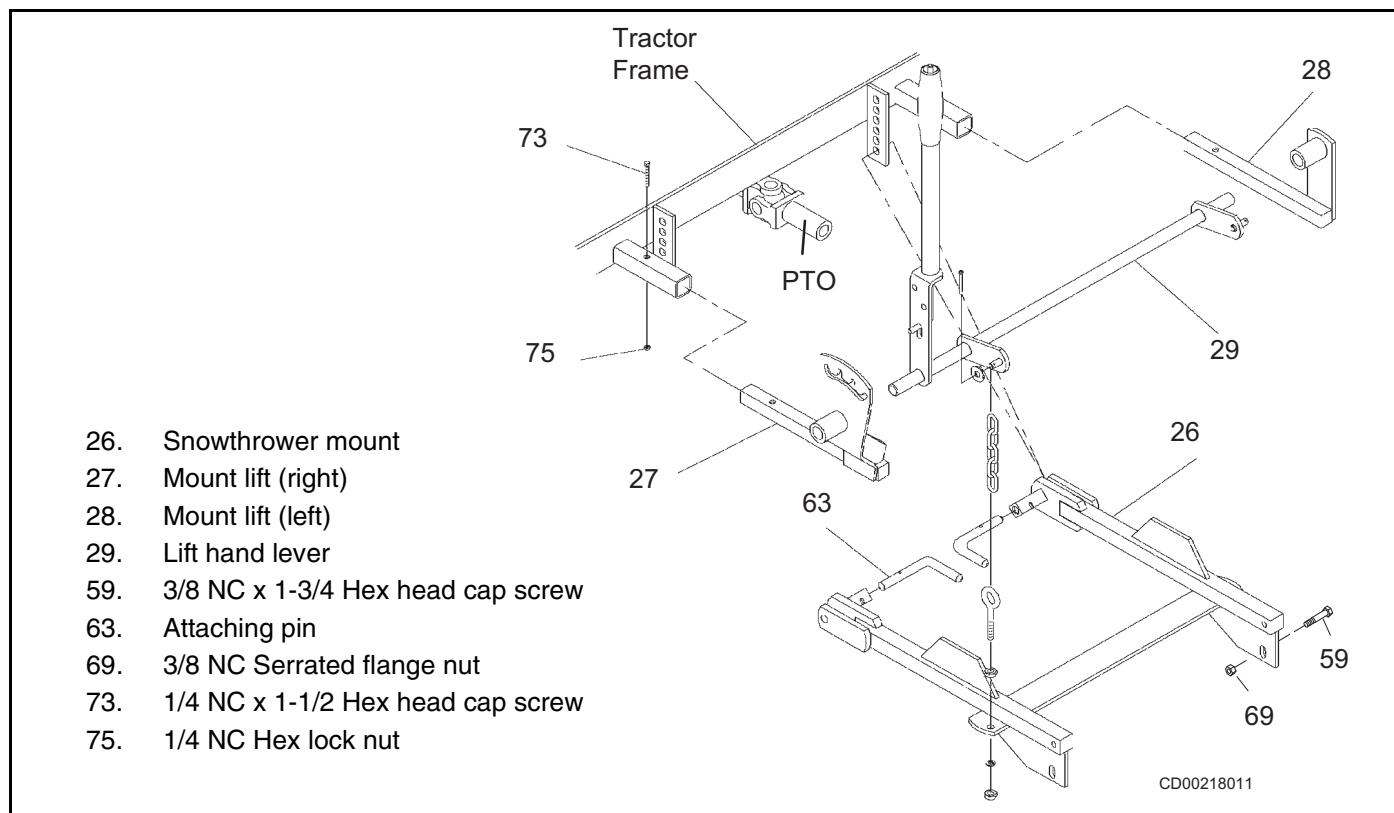

Figure 1. Snowthrower Attachment to Tractor
Slide lever mount (27) and lift mount (28) onto lift (29). Slide this assembly into tubes below footrest as shown in Figure 1. Secure with cap screws (73) and nuts (75) provided.
Open tractor hydrostat dump valve and maneuver tractor behind snowthrower as close as possible. Connect driveline, Figure 1, to tractor PTO.
Disconnect PTO driveline, lift mounts (27 & 28) and spring-loaded mount pins (63). See Figure 1.